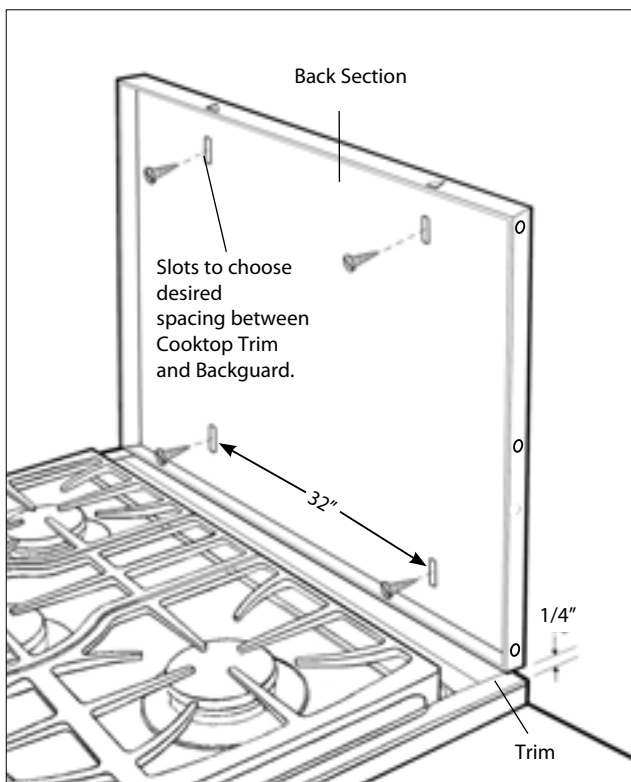

Fig.09
2. After unpacking all backguard system parts, locate the Back Section 1/4" (see fig. 09) above and centered over the Trim attached to the cooktop.* Secure Back Section to wall with the appropriate fasteners (not supplied) to anchors or wood stud (fig. 09).